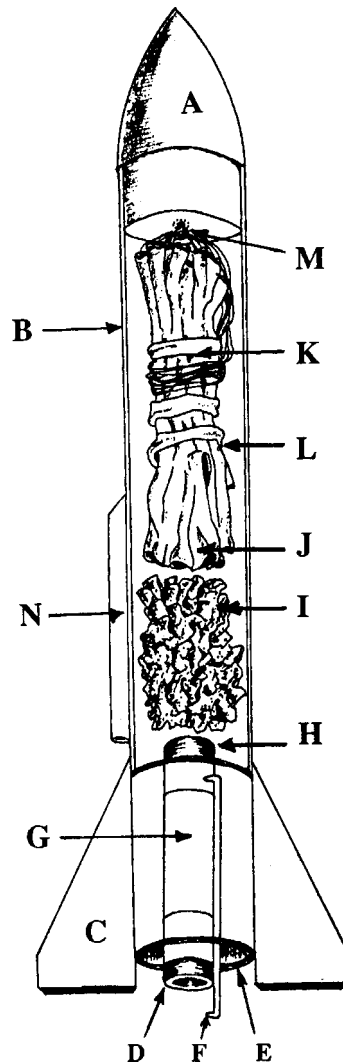

Figure 5. A model rocket illustration
The rocket illustrated in Figure 5 is a commonly constructed example, but you should follow the plans that come with your kit, as it may vary somewhat.
Shown in Figure 5, there are two methods of fastening engines in the engine tube. (Your rocket will use only one method.) A spring steel ENGINE HOLDER (F) is placed against the engine tube. The upper hook of the steel holder extends into the engine tube. The holder and engine tube is then